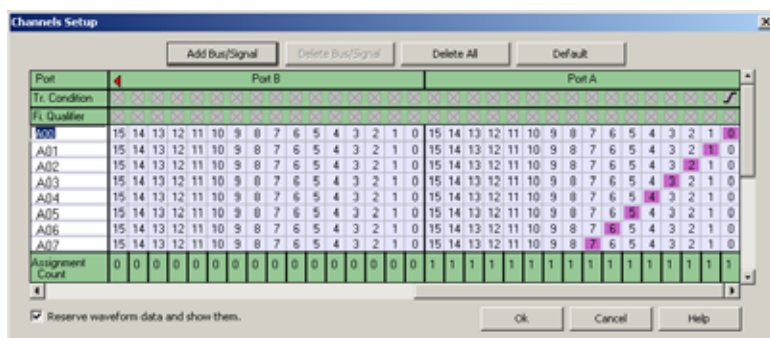

Fig 4-31 – Rename Bus
Rename the Bus and set up the channels of the Bus as shown in Fig 4-31.
2. Go to the relative channels as shown in Fig 4-31 and go to numbers 3, 4, 5, 6 which are located on column Port A and row Bus1. Click them to become purple, and then set these segments of signals.